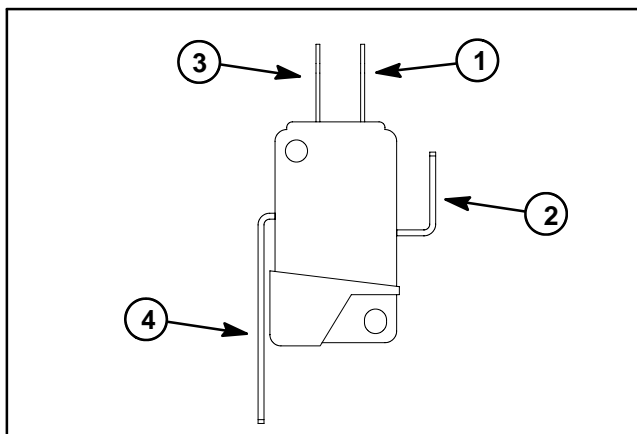

Figure 30
5. Connect a multimeter (ohms setting) across the normally open (NO) and common terminals of the switch (Fig. 30).